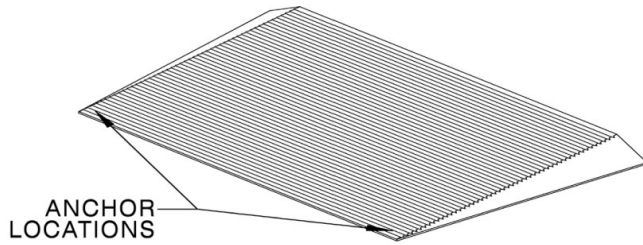

FIG. 3
To ensure that the mat does not move from its intended location, place the mat and anchor in both locations shown (**FIG. 3**).
1. **ANCHOR TO WOOD:** Using provided (2 ea.) Phillips head screws, spaced evenly approximately 1" from each lower corner edge as shown (**FIG. 3**), drive screws through the mat and into the wood surface until the head is seated just below the mat surface.
2. **ANCHOR TO CONCRETE:** Using a 1/4" diameter masonry bit, drill a hole through the mat and 2" deep into the concrete, spaced evenly approximately 1" from each lower corner edge as shown (**FIG. 3**). Remove debris from drilled holes, then drive the provided (2 ea.) 1/4" diameter mushroom head pin anchors through the mat and into the holes with a hammer until the head is seated just below the mat surface.